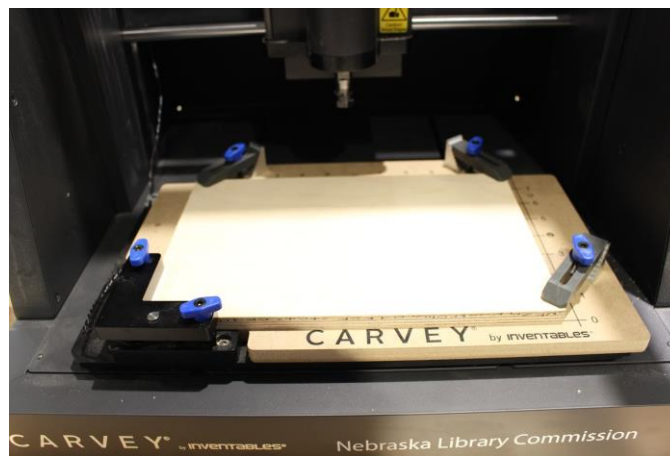

Figure 5 - Properly Secured Plywood
3. Remove the hold-down screws on the smart clamp in the lower left corner and fit your plywood securely against the smart clamp standoffs. Using the three short standoffs, the three medium plastic hold-downs, and the five medium hold down screws (blue) secure the plywood (Figure 5). The plywood should be secure, if you can move it without loosening the standoffs it is not secure enough. The aluminum standoffs and hold downs cannot extend past the back of the cutting bed or the machine will not operate. Outside of this training make sure to not place the plastic hold-downs where the CNC will be cutting as the machine will damage the hold-downs. Close the lid.